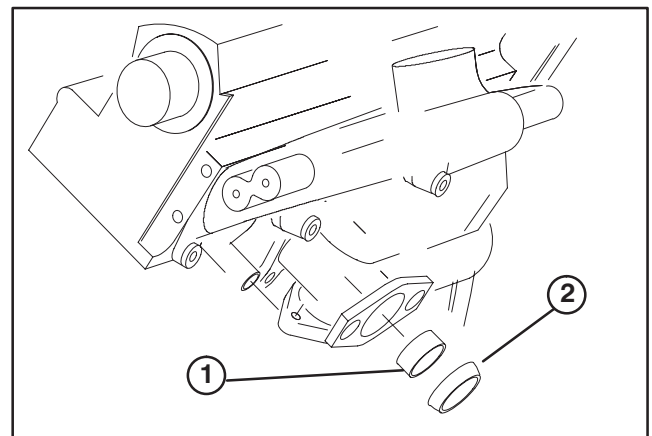

Figure 11
14. Press exhaust flange sleeve into side port of engine exhaust manifold (Fig. 11). Insert exhaust coupler over sleeve so larger diameter is against manifold (Fig. 11).